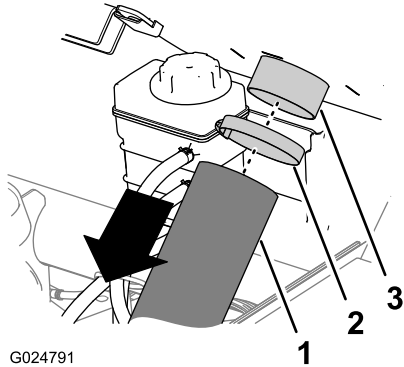

Figure 10
1. Remove the hose clamp that secures the CVT cooling duct to the flange of the CVT intake at the back of the ROPS panel on the passenger side (Figure 10).
2. Remove the CVT cooling duct from the flange of the CVT intake (Figure 10).